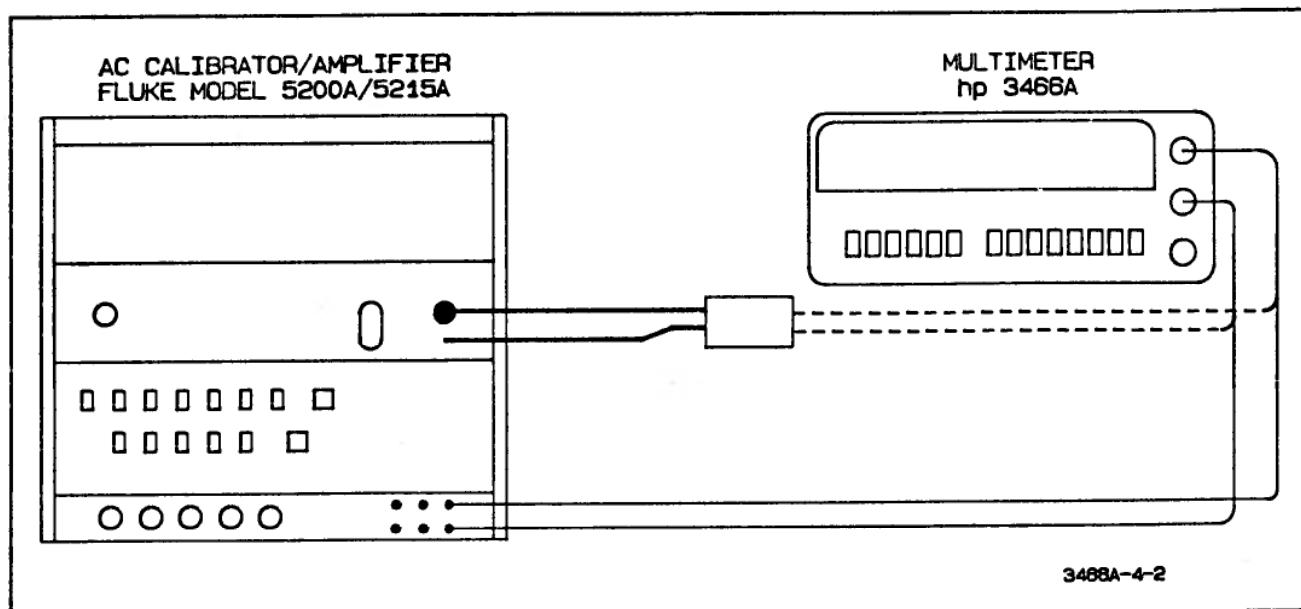

Figure 4-2. AC Voltmeter Accuracy Test
- Connect the AC Calibrator to the 3466A's input terminals as shown in Figure 4-2.